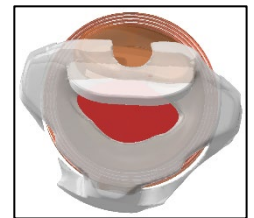
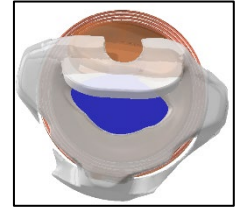

Figure 8: Right Lens
Figure 9: Left Lens
- f. Read the package label to confirm that the device is for the correct patient and ear. The right device is identified by a red dot located in the center, underneath the Grasping Tab (Figure 8). The left device is identified by a blue dot located in the center, underneath the Grasping Tab (Figure 9).